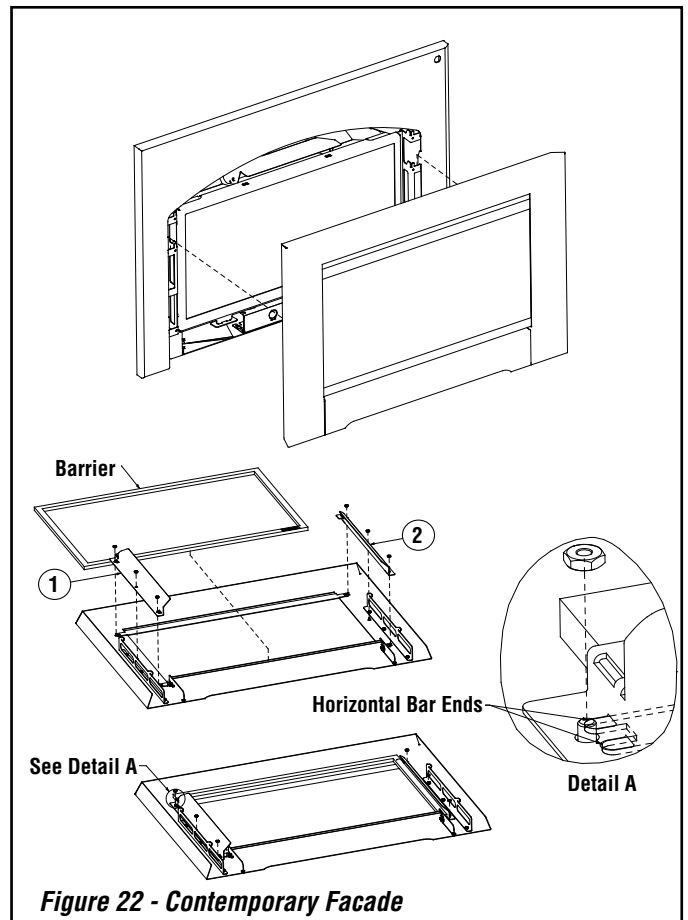

Figure 22 - Contemporary Facade
Contemporary Facade (see Figure 22)
2. Place sight obstructers back over the threaded studs taking note that the upper and lower horizontal bar ends line up with grooves in sight obstructers (see Detail A in Figure 22).